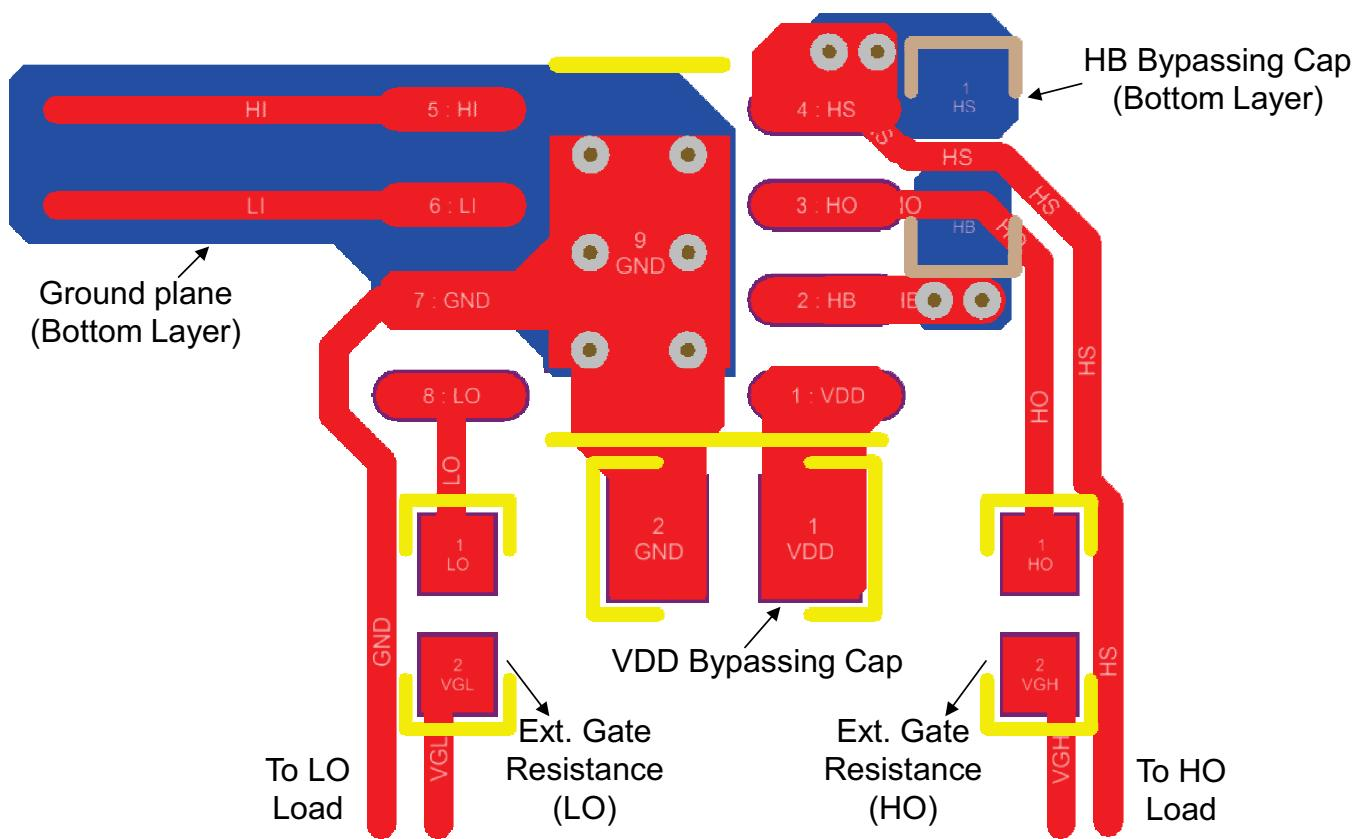

Figure 23. UCC27211A-Q1 PCB Layout Example
- Locate the $V_{DD} - V_{SS}$ and $V_{HB} - V_{HS}$ (bootstrap) capacitors as close as possible to the device (see Figure 23).